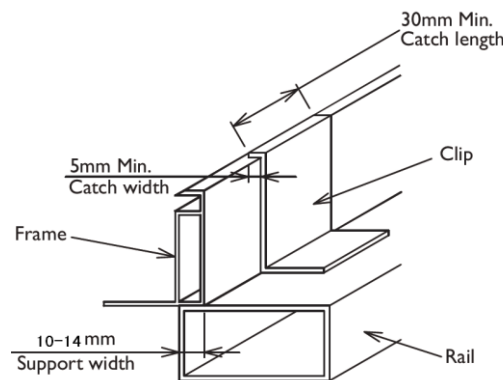

Figure 9
- k) For figure 6 mounting method, the modules must be supported along the length of the edge, and should overlap the array rail by 10mm – 14mm, as shown in figure 9.